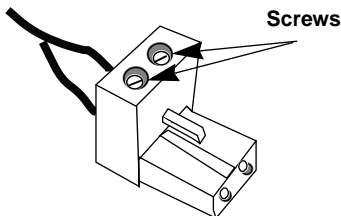

Figure 11. Front and Top of EAS Connector
11. Tighten the two screws on the top of the connector (Figure 11).